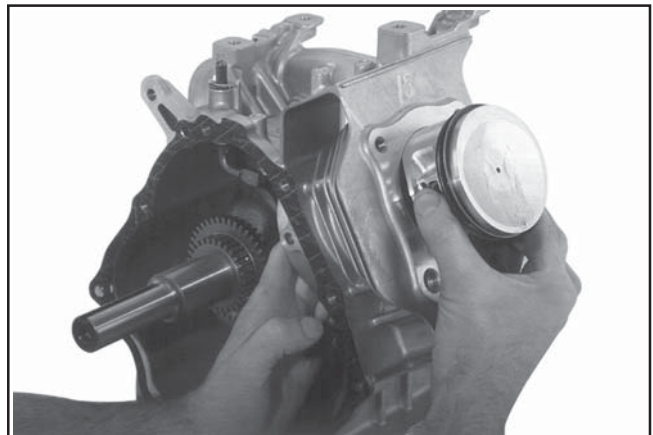

Figure 9-85. Removing Piston.
2. Carefully remove the connecting rod and piston assembly from the cylinder bore. See Figure 9-85.